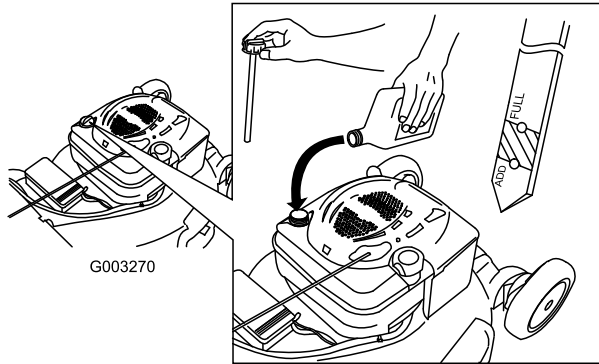

Figure 14
1. Remove the dipstick, wipe it clean, and fully install the dipstick (Figure 14).
2. Remove the dipstick and check the oil level (Figure 14). If the oil level is below the Add mark on the dipstick, **slowly** pour oil into the oil fill tube to raise the oil level to the Full mark on the dipstick. **Do not overfill.** (Max. fill: 20 oz. (0.59 l), type: SAE 30W detergent oil with an API service classification of SF, SG, SH, SJ, SL, or higher.)